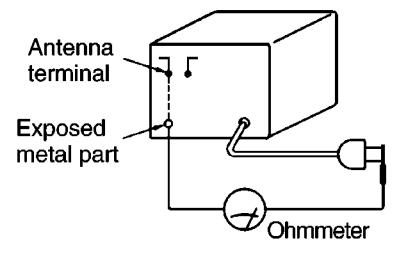
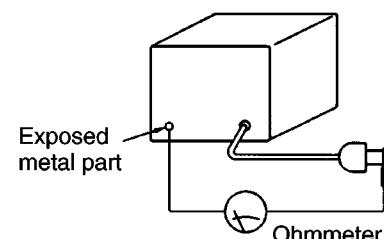

Fig. 2-1.
Fig. 2-2.
- Measure the resistance value with ohmmeter between the jumpered AC plug and each exposed metal cabinet parts, such as screw heads antenna, control shafts, handle brackets, etc.. Equipment with antenna terminals should read between  $3\text{ M}\Omega$  -  $5.2\text{ M}\Omega$  to all exposed parts. Refer to Fig. 2-1. Equipment without antenna terminals should read approximately infinity to all exposed parts. Refer to Fig. 2-2.